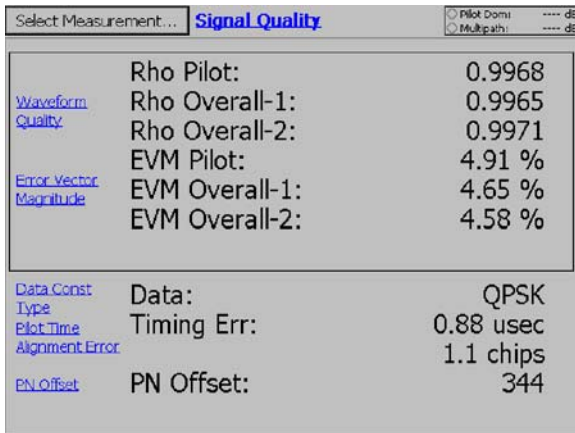

Figure 3-48: 1xEV-DO Signal Quality measurements
4. Tap **Signal Quality**. See Figure 3-48.